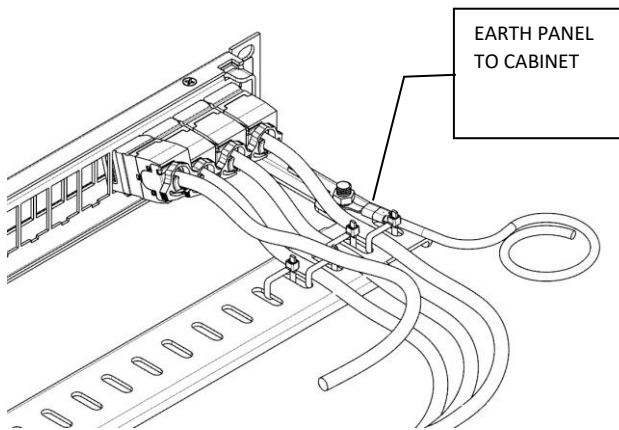

Fig. 20
4.0 TO ASSEMBLE JACK TO PATCH PANEL. (FIG. 20)
2. Individually Earth each patch panel to cabinet Earth position (see Fig. 20)